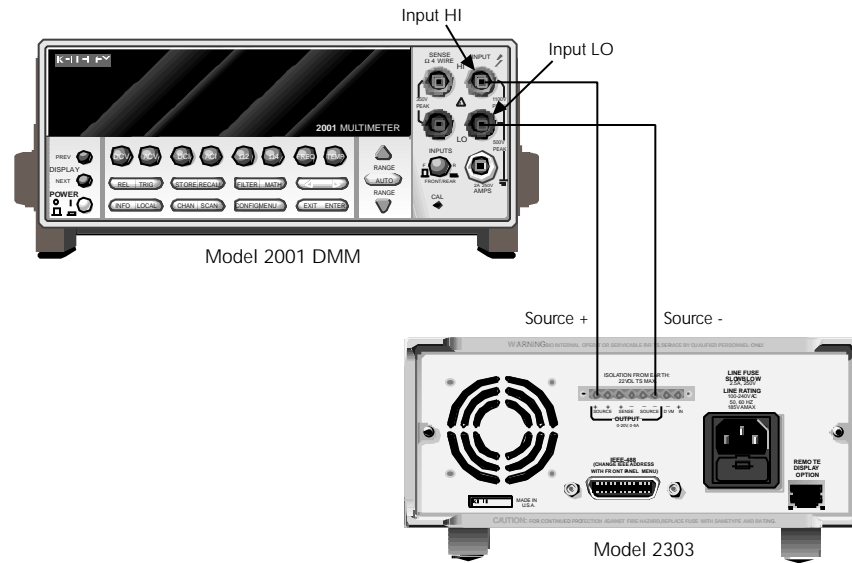

Figure 1-2
1. With the power off, connect the digital multimeter to the Model 2303 OUTPUT SOURCE terminals, as shown in Figure 1-2. Be sure to observe proper polarity (SOURCE + to INPUT HI; SOURCE - to INPUT LO).